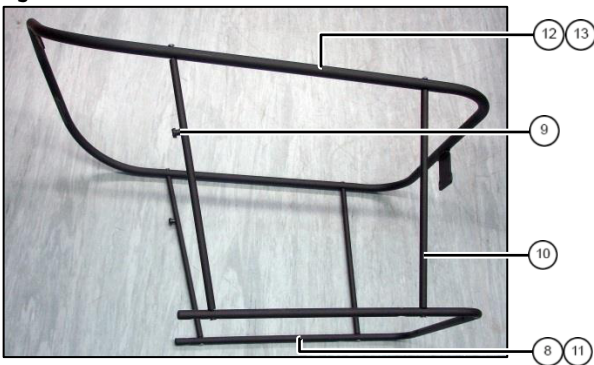

fig. 5: rail assembly
5. Connect lower rail ^⑧, 2 long stays (plastic stud ^⑨ up forward) and 2 short stays ^⑩ by 4 countersunk screws M5x30 ^⑪ (fig. 5). Do not tighten bolts yet.
6. Connect upper rail ^⑫ and stays by 4 rounded head bolts M5x25 ^⑬ (fig. 5). Tighten all bolts.